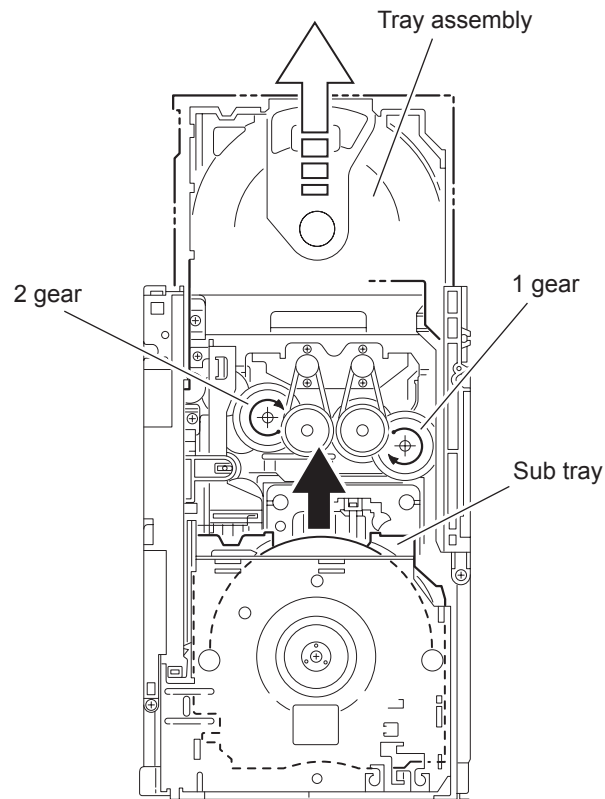

Fig.36
3.3.12 Taking out the CD in play mode (See Fig.36 ~ 39)